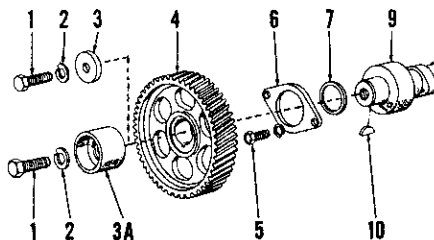

Fig. 77—Drawing showing assembly of camshaft gear to camshaft. Flat washer (3) is used on diesel engines; fuel pump eccentric (3A) is used on gasoline engines.
84. CAMSHAFT GEAR. To remove the camshaft gear, remove cap screw (1—Fig. 77), lockwasher (2) and washer (3) on diesel models or fuel pump eccentric (3A) on gasoline models; then, pull gear from shaft. Gear should be a hand push fit on shaft. With gear removed, inspect drive key (10), thrust plate (6) and spacer (7) and renew if damaged in any way.